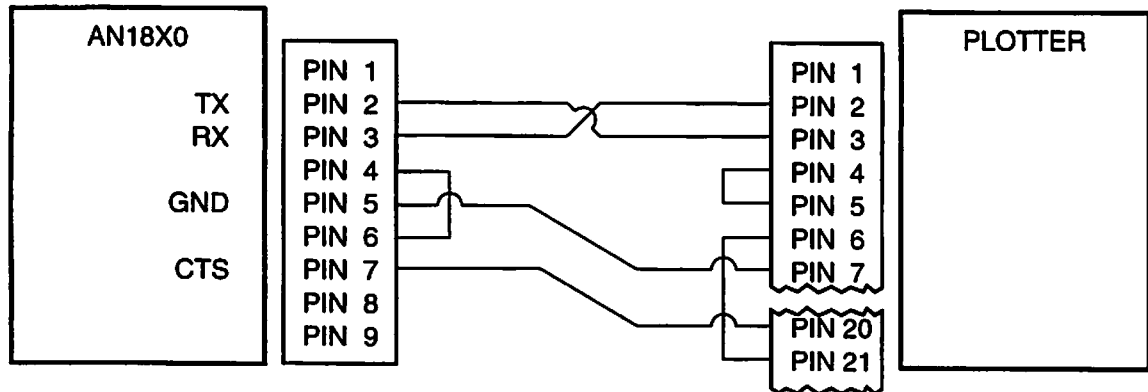

Figure 4-35 RS-232 Plotter Cable Configuration
2. Connect HPGL compatible plotter to RS-232 Connector for serial operation or IEEE-488 GPIB Connector for parallel operation. Refer to Figure 4-35 for RS-232 cable configuration. Use standard IEEE-488 GPIB cable for GPIB parallel operation.